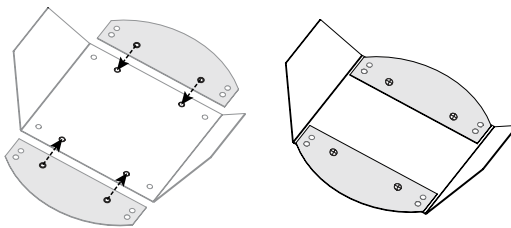

Figure 16-2
Installation of the provided vent restrictor assembly is required only for the venting configurations listed in **Figure 16-2**.
1. Refer to **Figure 16-2**.